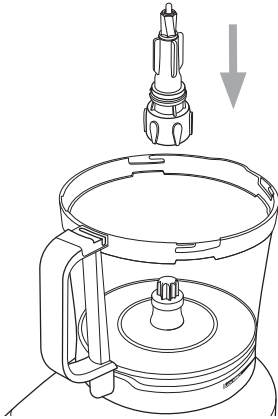

Fig 4
1. Fit the spindle onto the drive shaft, see figure 4.